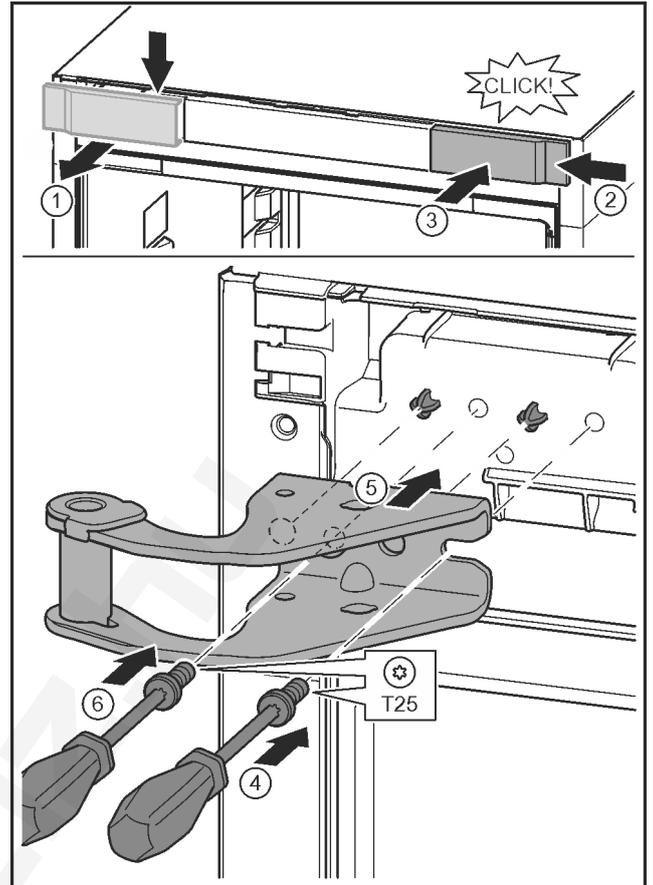

Fig. 26
- ▶ Release the cover and remove from the side. Fig. 26 (1)
- ▶ Rotate the cover 180° and clip onto the other side from the right. Fig. 26 (2)
- ▶ Click the cover into place. Fig. 26 (3)
- ▶ Position the screw with a T25 screwdriver. Fig. 26 (4)
- ▶ Position the upper bearing bracket. Fig. 26 (5)
- ▶ Tighten the screw. Fig. 26 (4)
- ▶ Insert the screw with a T25 screwdriver and tighten. Fig. 26 (6)